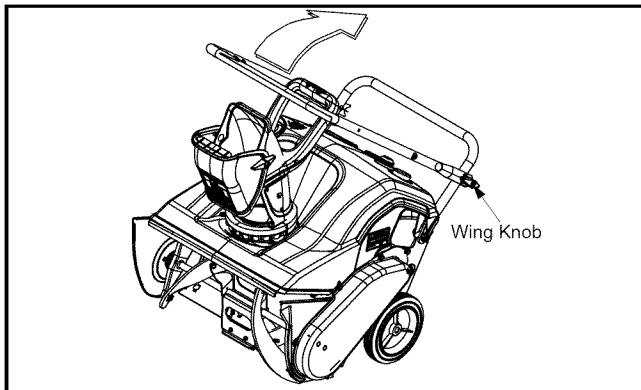

Figure 1
- Making sure not to pinch or crimp the cable in the process, pivot the upper handle into the operating position as illustrated in Figure 1 until it clicks into place.